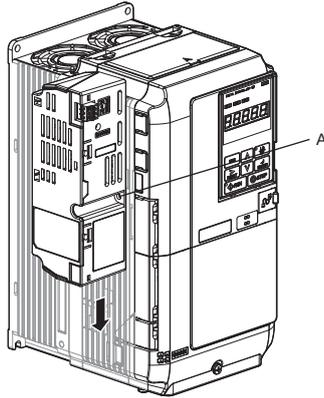

**Figure 9 Align the Option and the Unit**
4. Align the connector tabs on the option with the insertion tabs on the unit as shown in Figure 9.